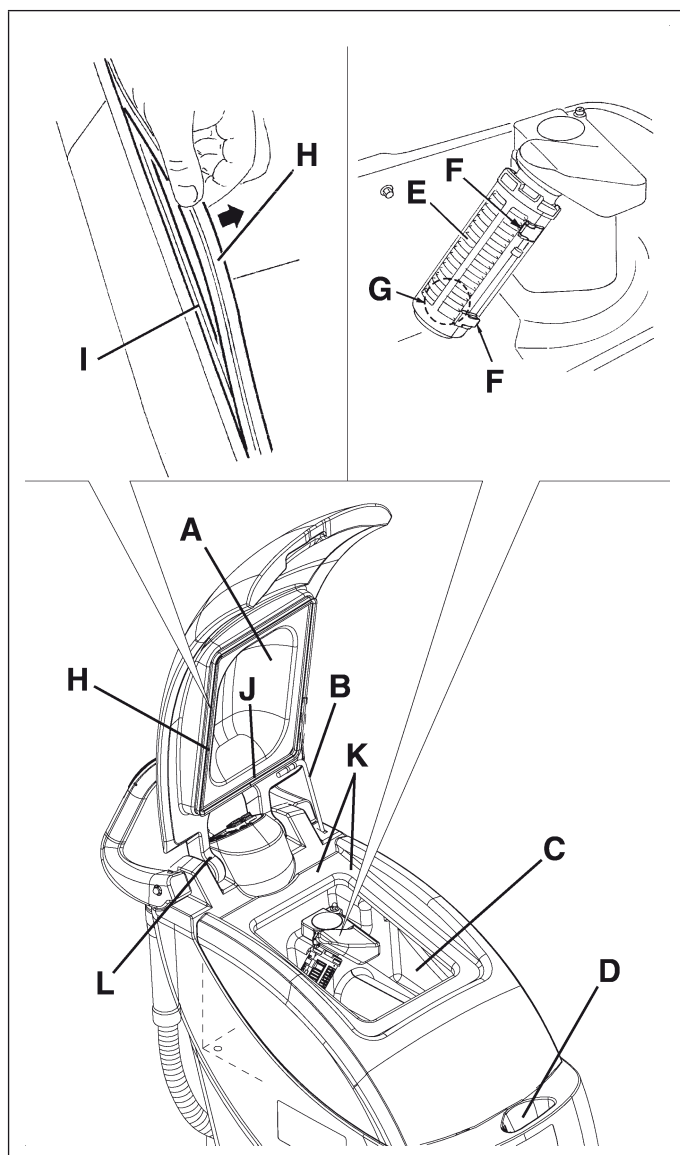

Figure 19
3. Lift the cover (A, Fig. 19) and apply the cover stand (B), then clean and wash the cover, the tanks (C and D) and the vacuum grid (E) with clean water.
4. If necessary, release the retainers (F, Fig. 19), open the vacuum grid (E), remove the float (G), then carefully clean and reinstall them.
5. Check the cover sealing gasket (H, Fig. 19) of the recovery tank for wear.
*The gasket (H, Fig. 19) creates vacuum in the tank, which is necessary for the vacuuming of the recovery tank.*
If necessary, replace the gasket (H, Fig. 19) after removing it from the housing (I).
When reassembling the new gasket, install the joint (J) in the central area, as shown in Fig. 19.
6. Check the gasket (H, Fig. 19) seating surface (K) for integrity and sealing capabilities.
7. Check the vent hole (L, Fig. 19). If clogged, clean it.
*The hole (L, Fig. 19) compensates the air in the cover interspaces, thus allowing the creation of vacuum in the recovery tank.*
8. Remove the cover stand (B, Fig. 19) and close the cover (A).